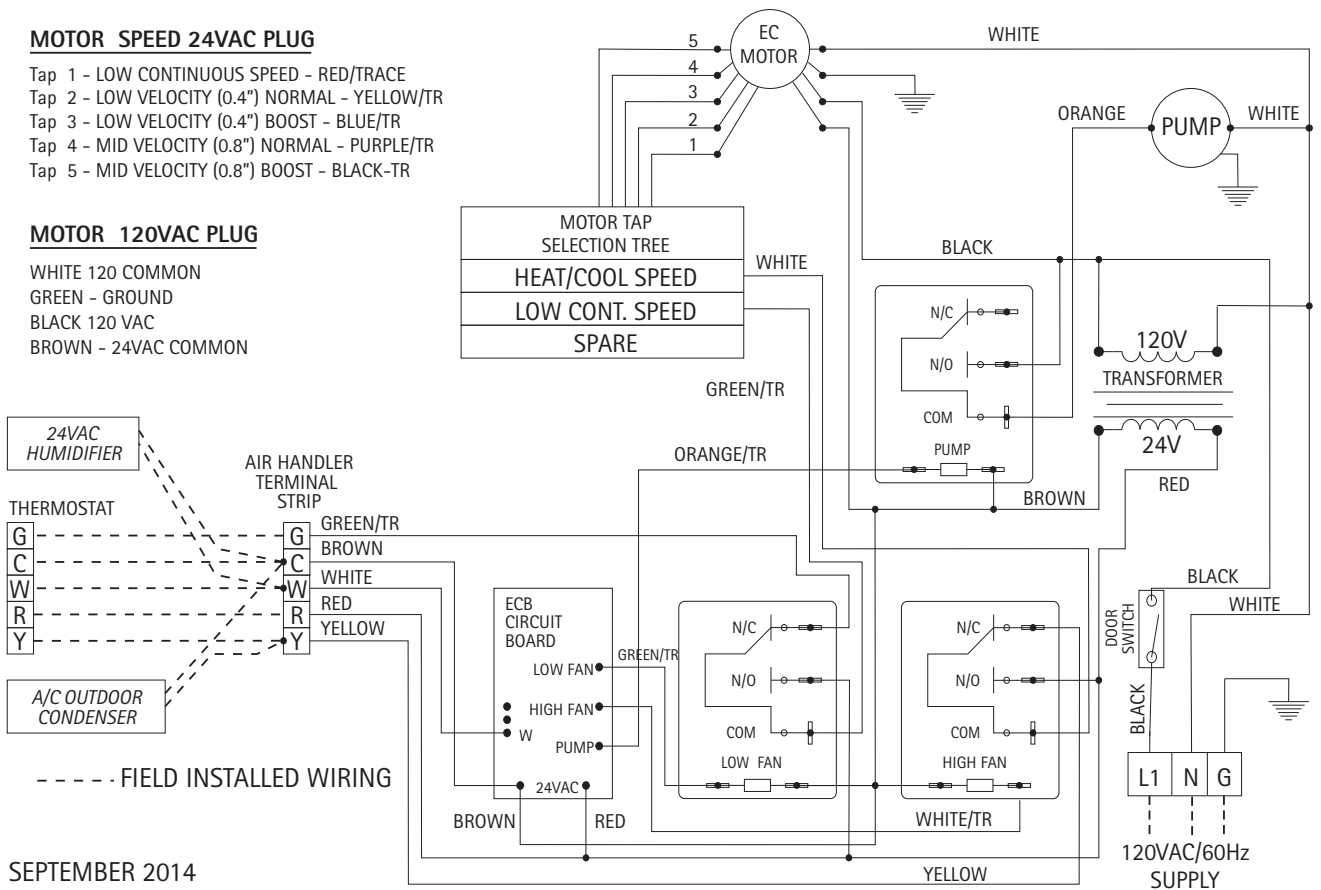

FIGURE 13 DVS Wiring Diagram
Check to ensure proper connection(s) to the appropriate blower speed tap. To do this, reference page 25 thru 29 and select the correct model and desired fan speed data. Refer to Figure 13 for appropriate motor tap/wire colour to use.
5. There may be a faulty TAP on the motor. Select a different speed on the motor tap selection tree. Refer to Figure 13.